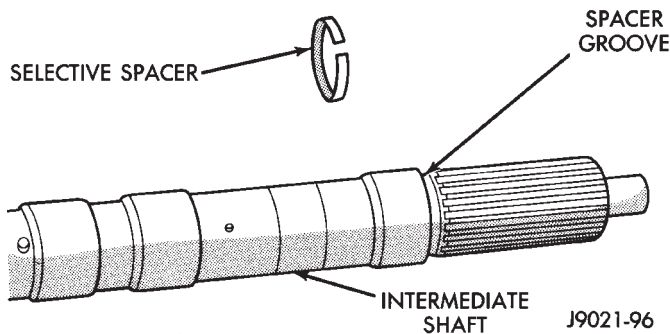

Fig. 45 Intermediate Shaft Selective Spacer Location
(6) Install selective spacer on intermediate shaft, if removed. Spacer goes in groove just rearward of shaft rear splines (Fig. 45).